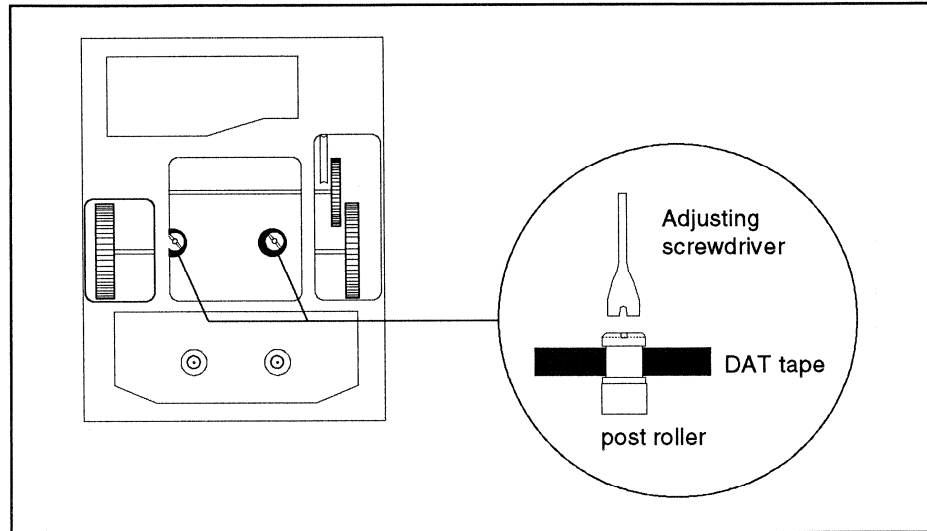
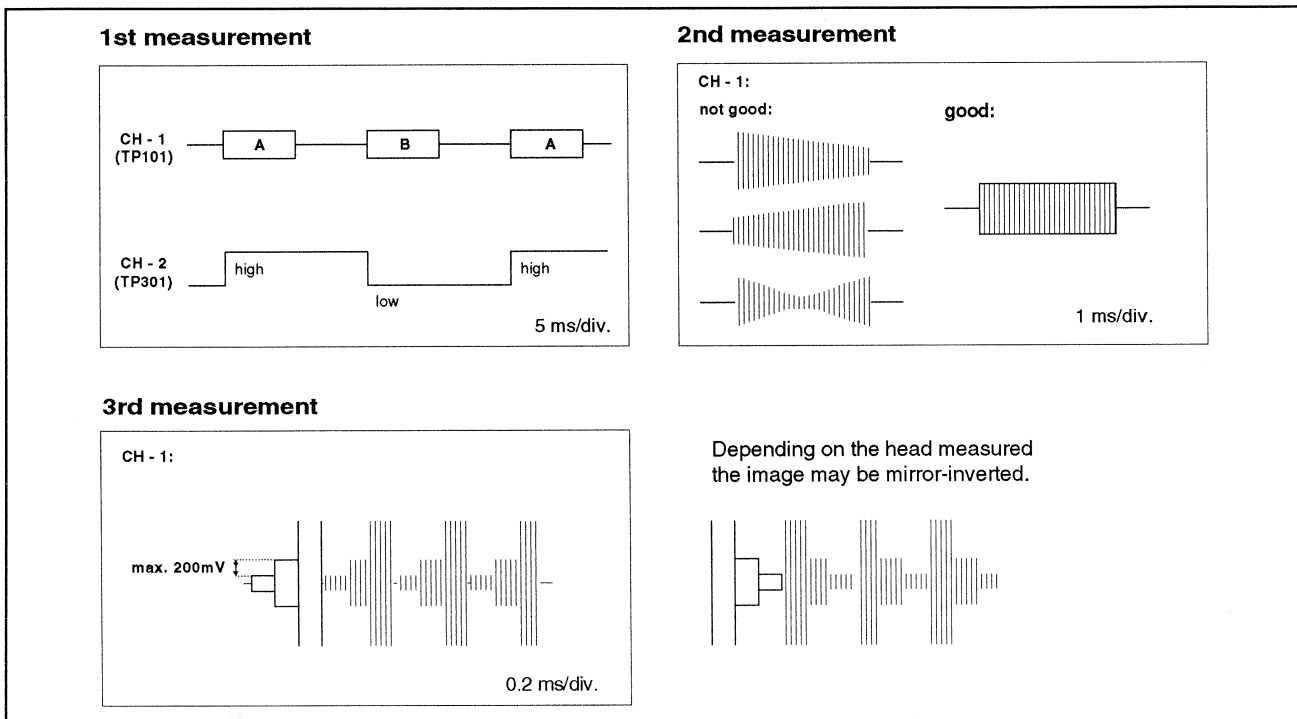

Fig. 4.5 Location of the post rollers with cassette loaded
Fig. 4.6. CRO pictures during post roller adjustment
The CRO (Fig. 4.6) shows on **channel 1** the signals sampled by the heads **A** and **B**. The sampling pause between the heads corresponds to one quarter head rotation. **Channel 2** shows a square-wave signal. A **high amplitude** correlates to channel 1 with **head A**, a low value with **head B**.
- With the special screwdriver adjust the height of the post rollers (Fig. 4.5) in such a way that a good signal shape is obtained (Fig. 4.6). First correct only the position of one post roller in both direction. Note the initial setting of the screw. If no good square-wave signal can be obtained, adjust the other side and only then adjust both rollers together. Adjust only in small increments (1/4 turns).